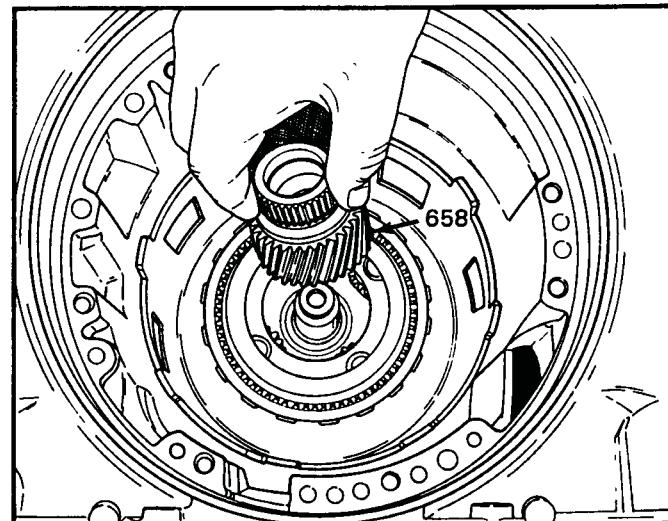

Figure 99
- 8. Install input sun gear as shown in Figure 99, by rotating into the carrier pinions.